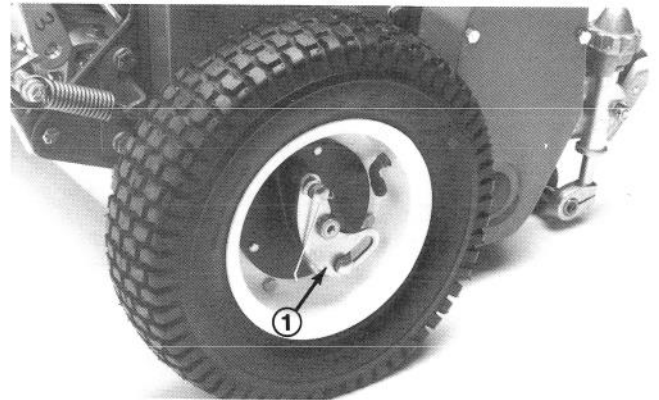

Figure 6
4. Slide wheel onto axle (Fig. 6).
5. Pivot wheel locking clip away from center of wheel allowing wheel to slide farther onto axle (Fig. 6).